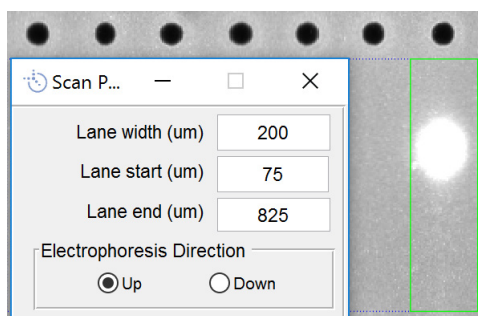

Figure 3-10: Adjusting the lane width in the Scan Properties window.
2. Select **Edit > Scan properties...** and increase the **Lane width** value until the protein band is fully within the lane outline. In the example shown in Figure 3-10, the lane width was increased to 200 μm .